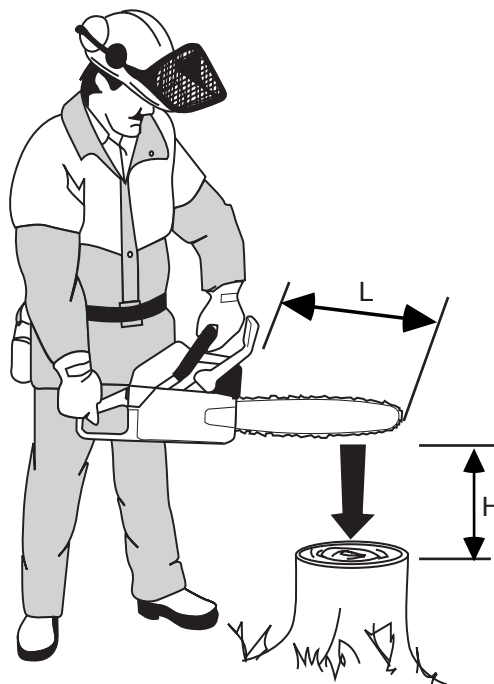

Fig. 10
1. Hold the chain saw over a stable surface as shown in fig. 10.